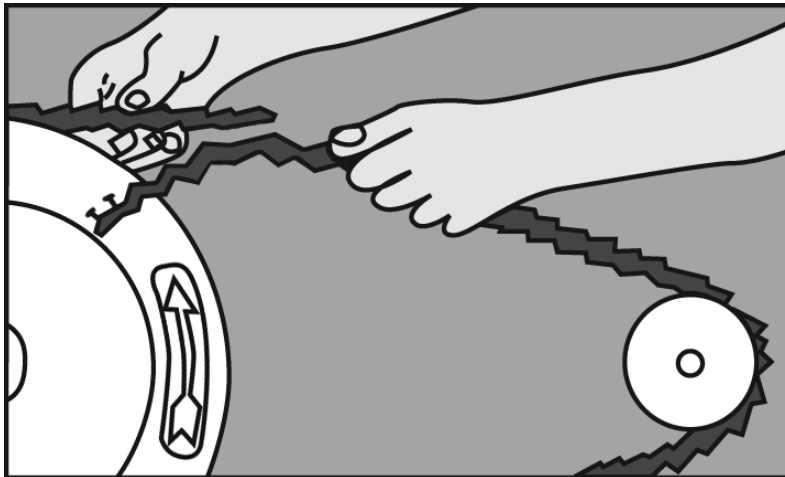

Figure 13
1. Measure the belt by pulling the belt tight around the pulley to check hand tight length, overlapping the two holes on end of belt with corresponding studs in the opposite end to determine start length – refer to Fig. 13.